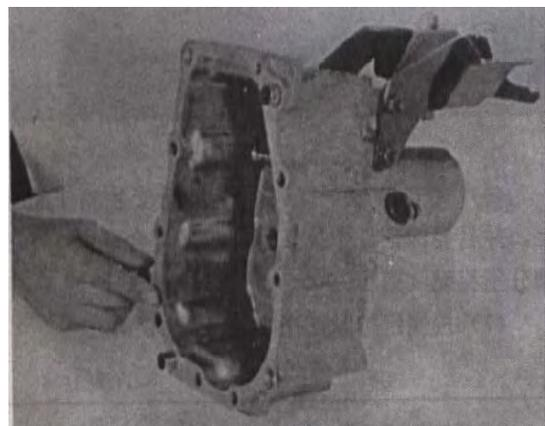

Fig 10-92
- (2) Apply grease(GREASE 201) to oil seal lip.
- (3) Clean surface of extension case to mate with transmission case and uniformly apply sealant (SILICON KETONE HZ1213) (FIG.10-92)